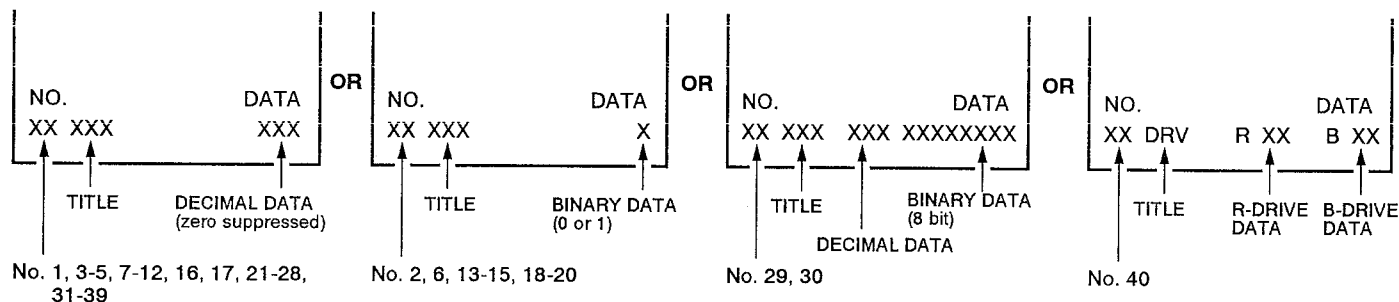

Figure 1. Service Menu Display
- While pressing the "MENU" key, connect the AC power cord. The Service Menu display will now appear. (See Figure 1 below.)